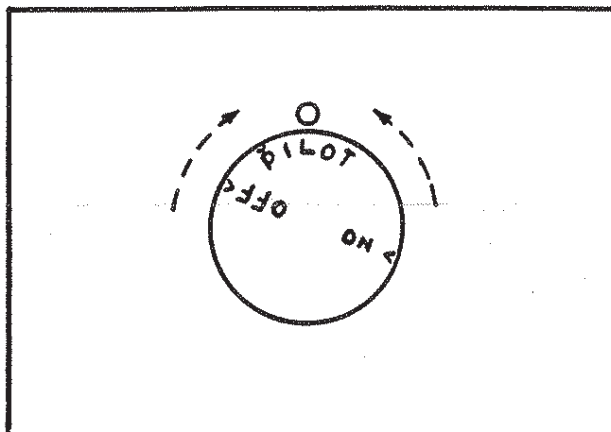

FIGURE 1
A. Turn the control knob to the "OFF" position by pressing the knob in and turning it clockwise until it stops in the upright position. See Figure 1.
B. WAIT FIVE (5) MINUTES TO CLEAR OUT ANY GAS.